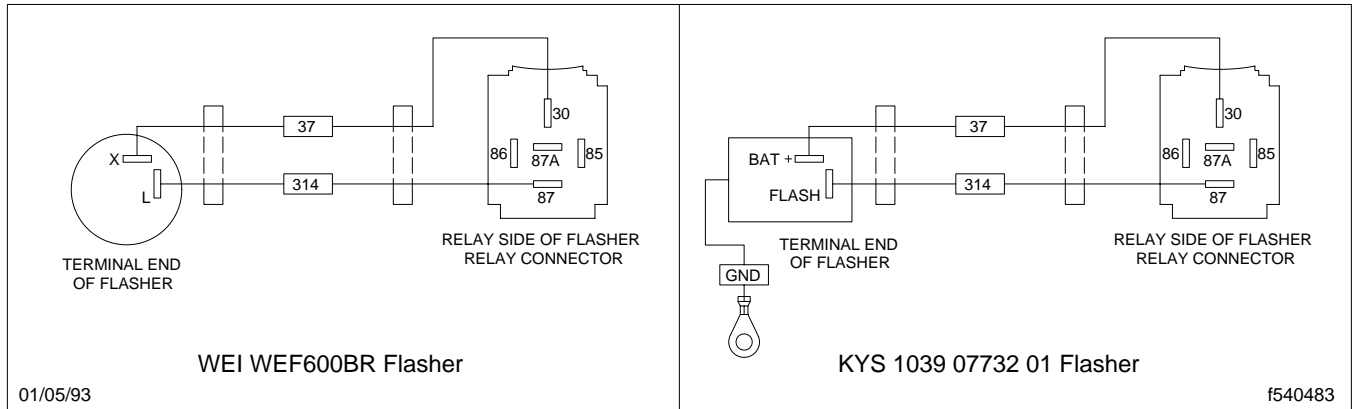

Fig. 2
2. Install the male terminals of the jumper harness into the flasher relay connector as shown in Fig. 2. Install wire 314 into terminal 87 of the flasher connector. Install wire 37 into terminal 30 of the flasher connector.